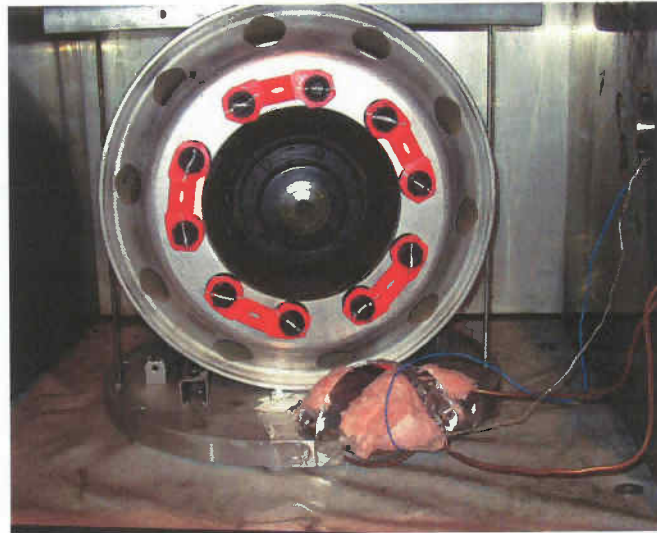
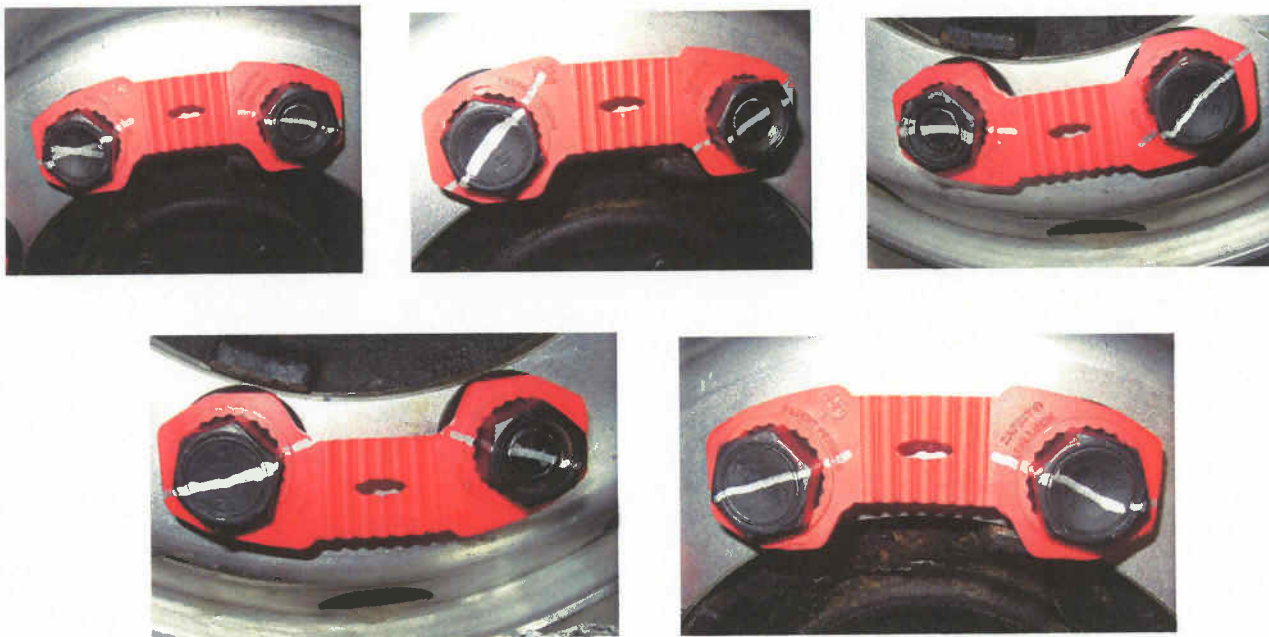

Figure 1A
Figure 2A
The vibration at temperature tests were performed on a vertical motion *THERMOTRON DS-640* shaker table situated inside a *THERMOTRON* thermal chamber. The wheel was attached to the vibration platform with its vertical axis parallel to the vibration platform's thrust direction. Hence, the sample was vibrated in the vertical direction (Z axis), as shown in Appendix A, Figure 1A. One accelerometer which provided the control signal was attached to the vibration platform in thrust direction.
1. 26" Hub Pilot Alloy Rim, prior to vibration testing: Figure 1A and Figure 2A,